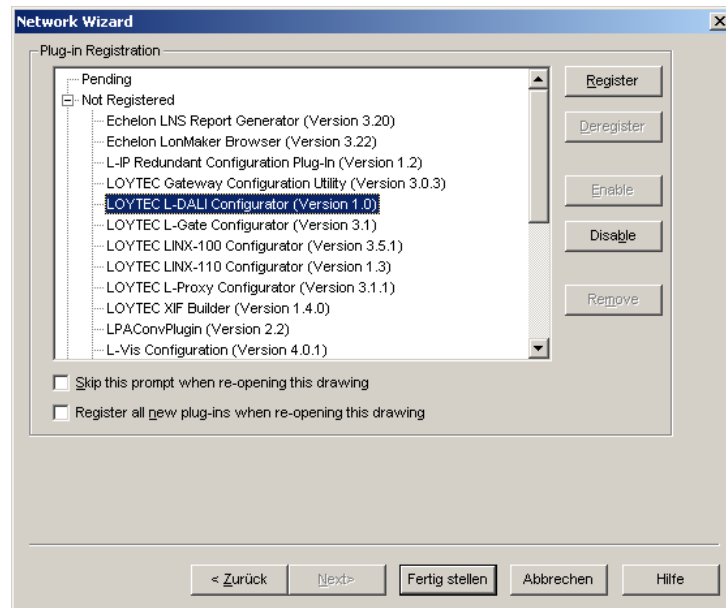

Figure 80: Select the Plug-in to be registered.
2. Click **Next** until the plug-in registration tab appears in the Network Wizard. Select the **LOYTEC L-DALI Configurator (Version X.Y)** from the list of **Not Registered** (see Figure 80).